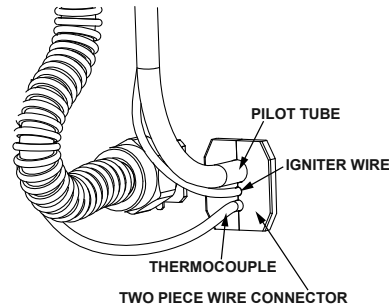

FIGURE 37.
- Position the new pilot tube through the largest opening of the two piece wire connector. **NOTE:** The largest opening should be located at the top position. The igniter wire should be located in the middle opening and thermocouple in the bottom opening. (Figure 37)